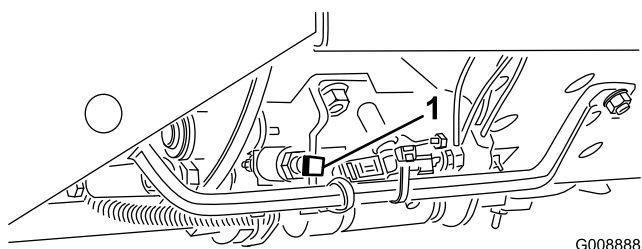

Figure 31
**Important:** The mow speed is set at the factory to 6 mph (9.7 km/h). It can be increased or decreased by adjusting the speed stop screw (Figure 31).